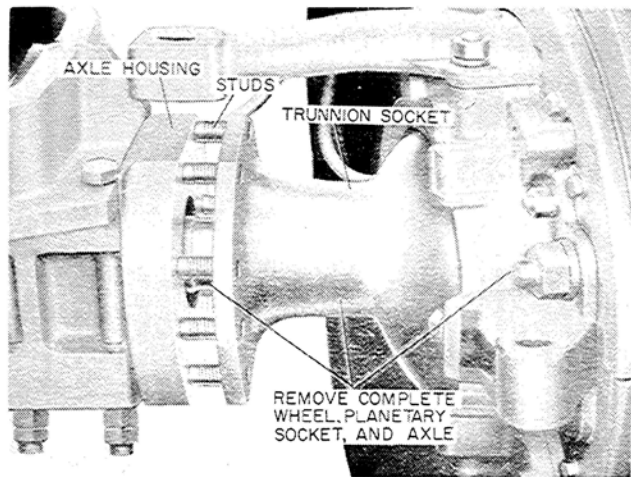

Figure T-22
5. Now the complete wheel, planetary, socket and axle can be pulled outward far enough so the axle shaft can be disengaged from the differential side gear, Figures T-22 and T-23.